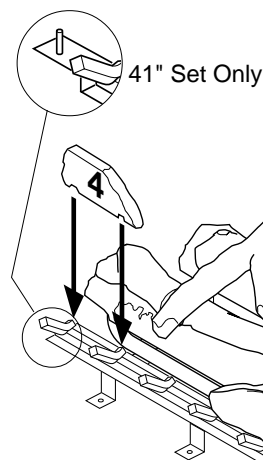

Figure 48 - Installing Log No. 4
4. Place log #4 (small log) onto the front left part of the grate making sure the notches fit over the prong of the grate (and hole over pin on 41" set). See Figure 48.